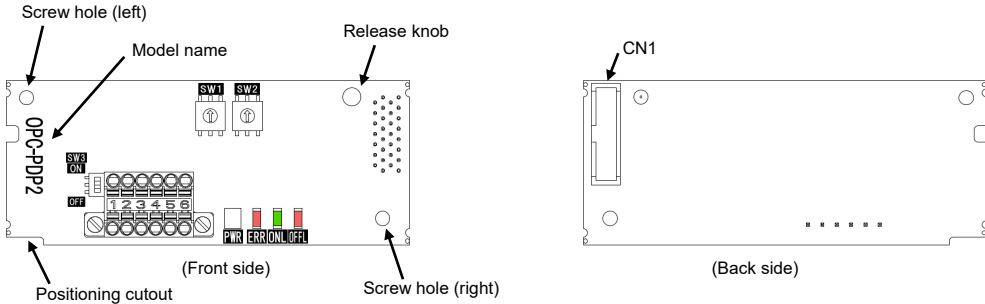

Figure 1.1 Names of Parts on PROFIBUS-DP Communications Card (OPC-PDP2)
- (1) A communications card, two screws (M3 × 8), and the PROFIBUS-DP Communications Card Instruction Manual (this document) are contained in the package.
- (2) The communications card is not damaged during transportation--no defective parts, dents or warps.
- (3) The model name "OPC-PDP2" is printed on the communications card. (See Figure 1.1.)